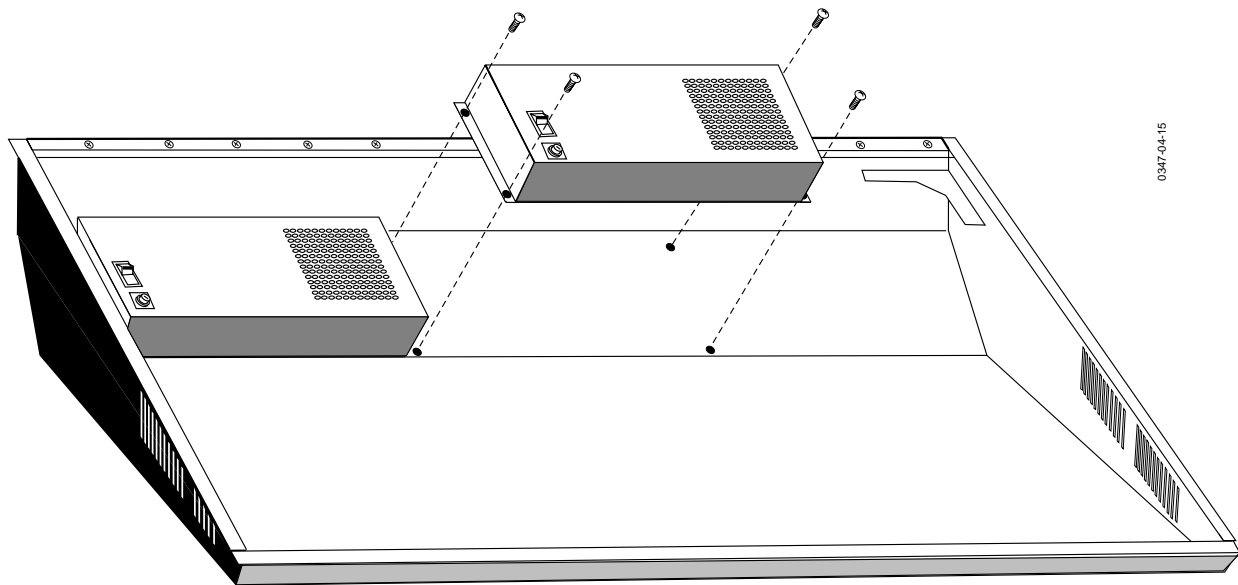

Figure 4-21. Model 4000-3 Control Panel Power Supply Removal
4. Remove the screws securing the power supply to the Control Panel tub. See Figure 4-21.